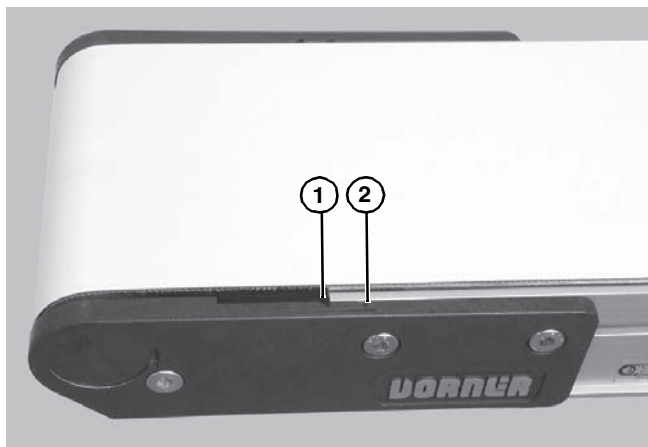

Figure 26
2. Adjust head plate assembly so end of conveyor frame aligns with or between the head plate tensioning marks (**Figure 26, item 1 & 2**). Replace belt if proper tensioning can not be obtained while aligning the end of the conveyor frame with or between the tensioning marks. See NOTE.